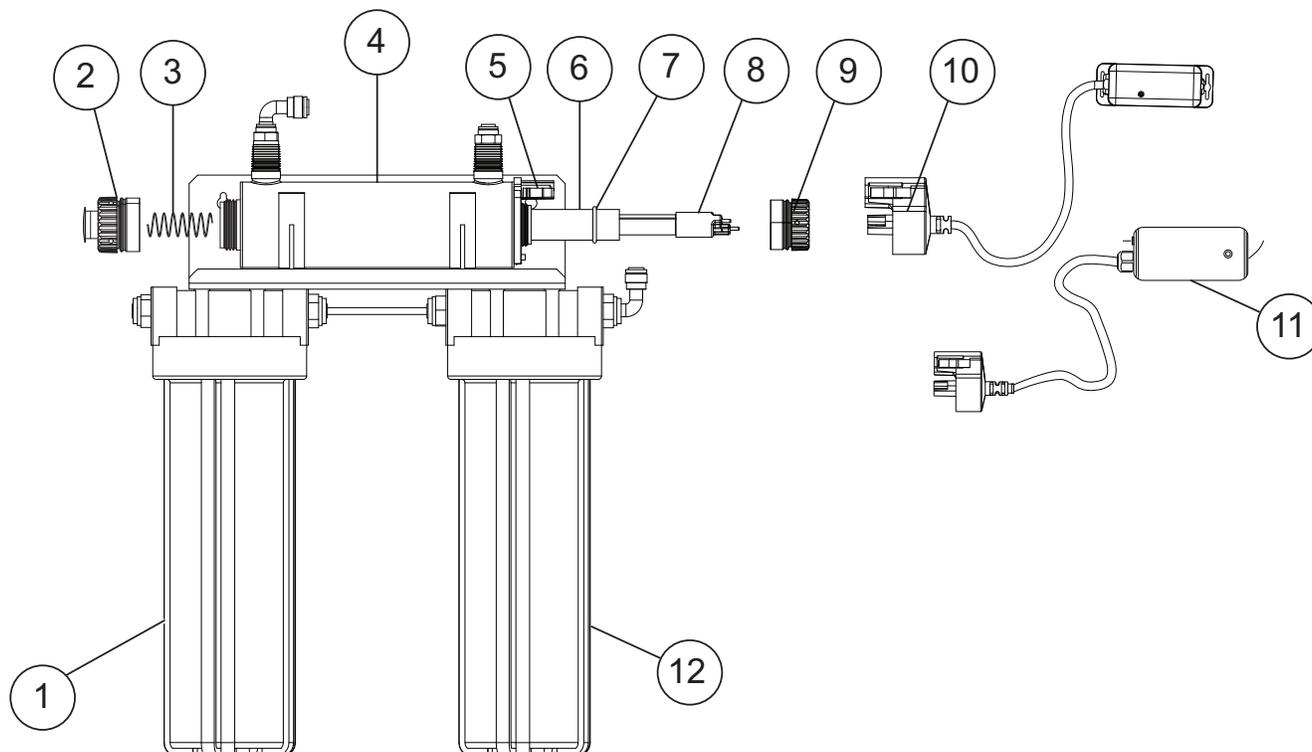

Figure 1 System Components
3. Mount the system to the wall using the two mounting holes in the back of the UV system with appropriate fastening devices. Refer to Figure 1.
6. The power source provided with your UV system must be located within five (5) feet of an electrical outlet. DO NOT use an outlet that can be switched off (ie. a waste disposal outlet). Attach the lamp connector to the UV lamp, slide the connector over the retaining nut. Plug the ballast into the outlet and ensure the POWER-ON LED is illuminated.